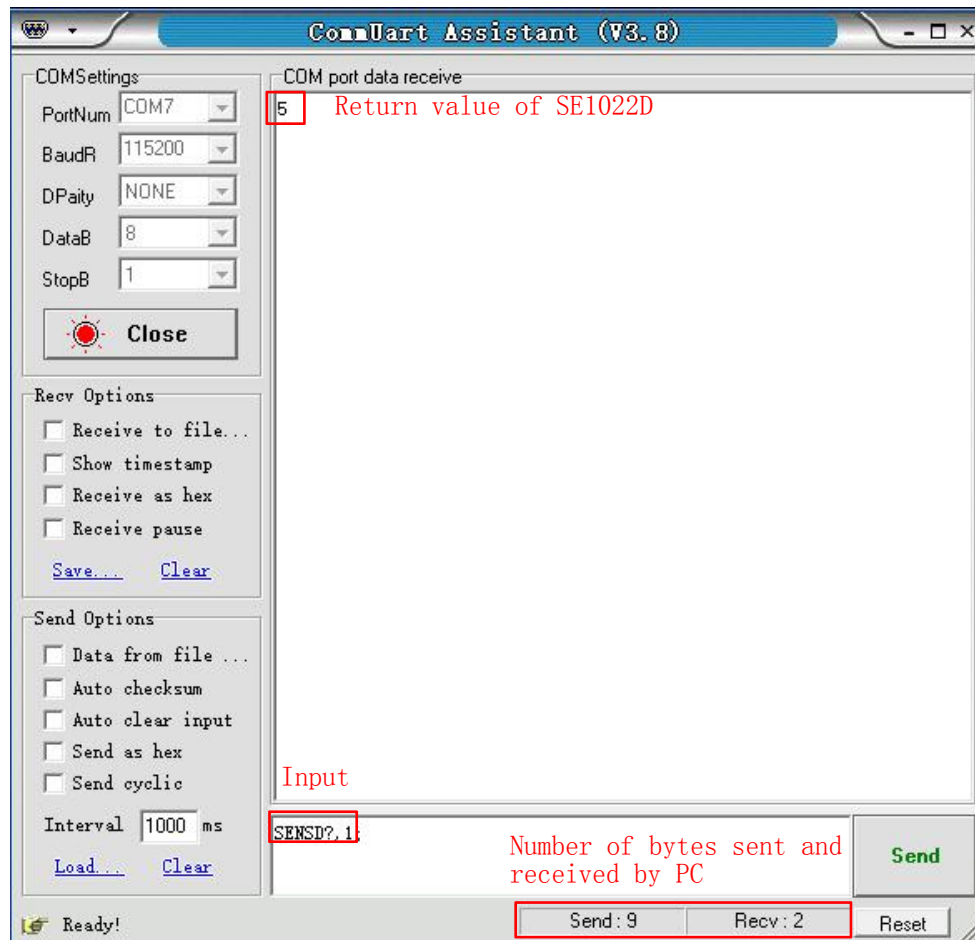

Fig.103 Send and Receive Commands in ASCII Words
(1) The command format of SE1022D is defined as follows: upper mnemonics + channel selection (1/2) + option parameters + semicolon/carriage return sign. For more details, please see 'Chapter 4 Remote Programming'. To send commands, firstly, clear input area. Secondly, input commands in the sending area, single command can be finished by pressing the 'Enter' key rather than with a semicolon. Thirdly, click the 'Send' button to send command. As shown in Fig.103 and Fig.104.